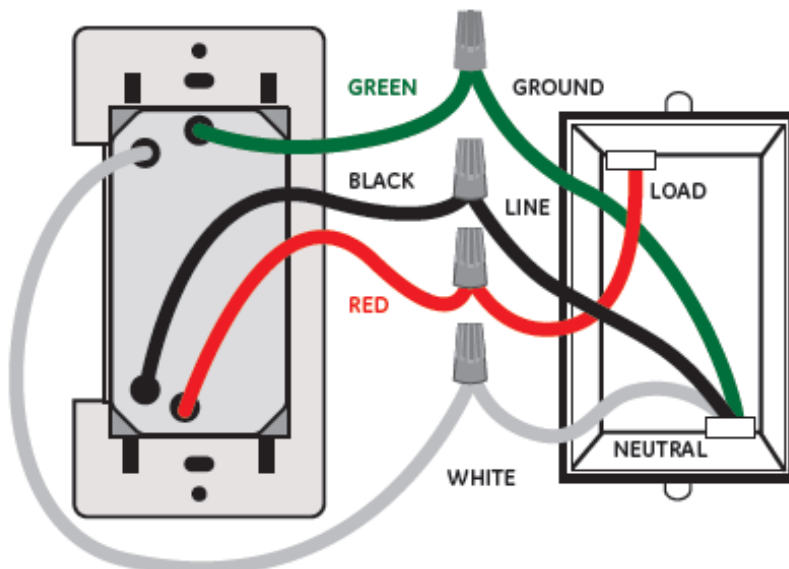

Figure 2
5. Connect wires using the provided twist-on connectors (Use with copper wire only). As shown in Figure 2. The white wire is the circuit's Neutral conductor. (Often the Neutral wire can be found pushed in the back of the switch box, bound by a wire nut. If you are uncertain as to which wire is which or cannot locate your neutral wire, please consult a certified electrician.)